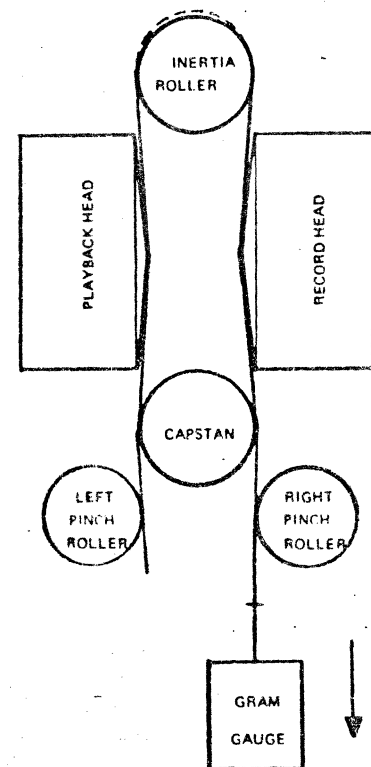

Figure 7. Pinch Roller Pressure Threading
- Step 3.* Thread a four foot section of recording tape, and attach the gram gauge, per figure 7.